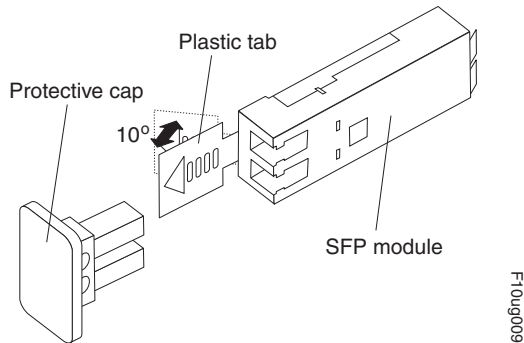

Figure 72. Unlocking the SFP module latch - plastic variety
- For SFP modules that contain plastic tabs, unlock the SFP module latch by pulling the plastic tab outward 10°, as shown in Figure 72.